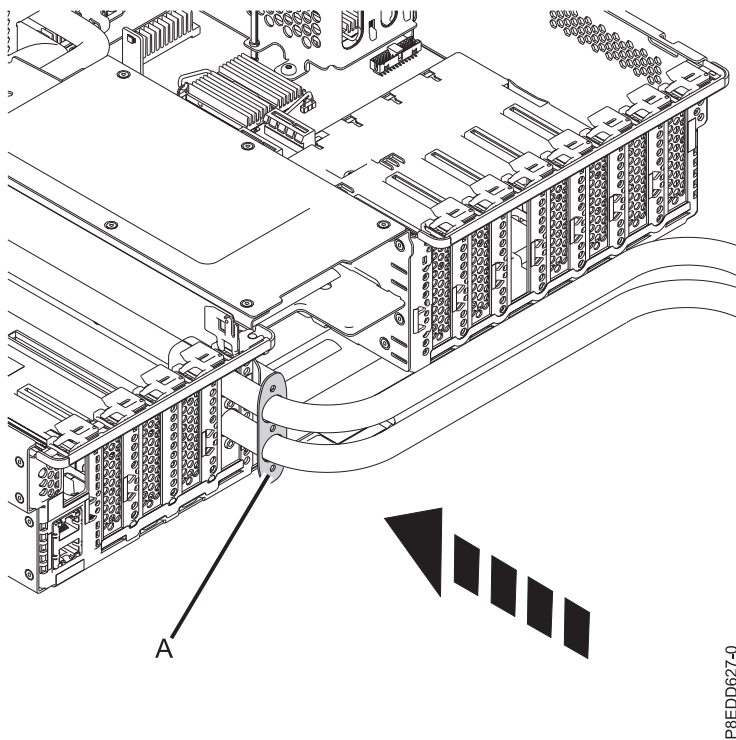

Figure 201. Pushing the hose retainer bracket back into position
- b. Push the hose retainer bracket (A) back to the rear bulkhead, as shown in Figure 201.